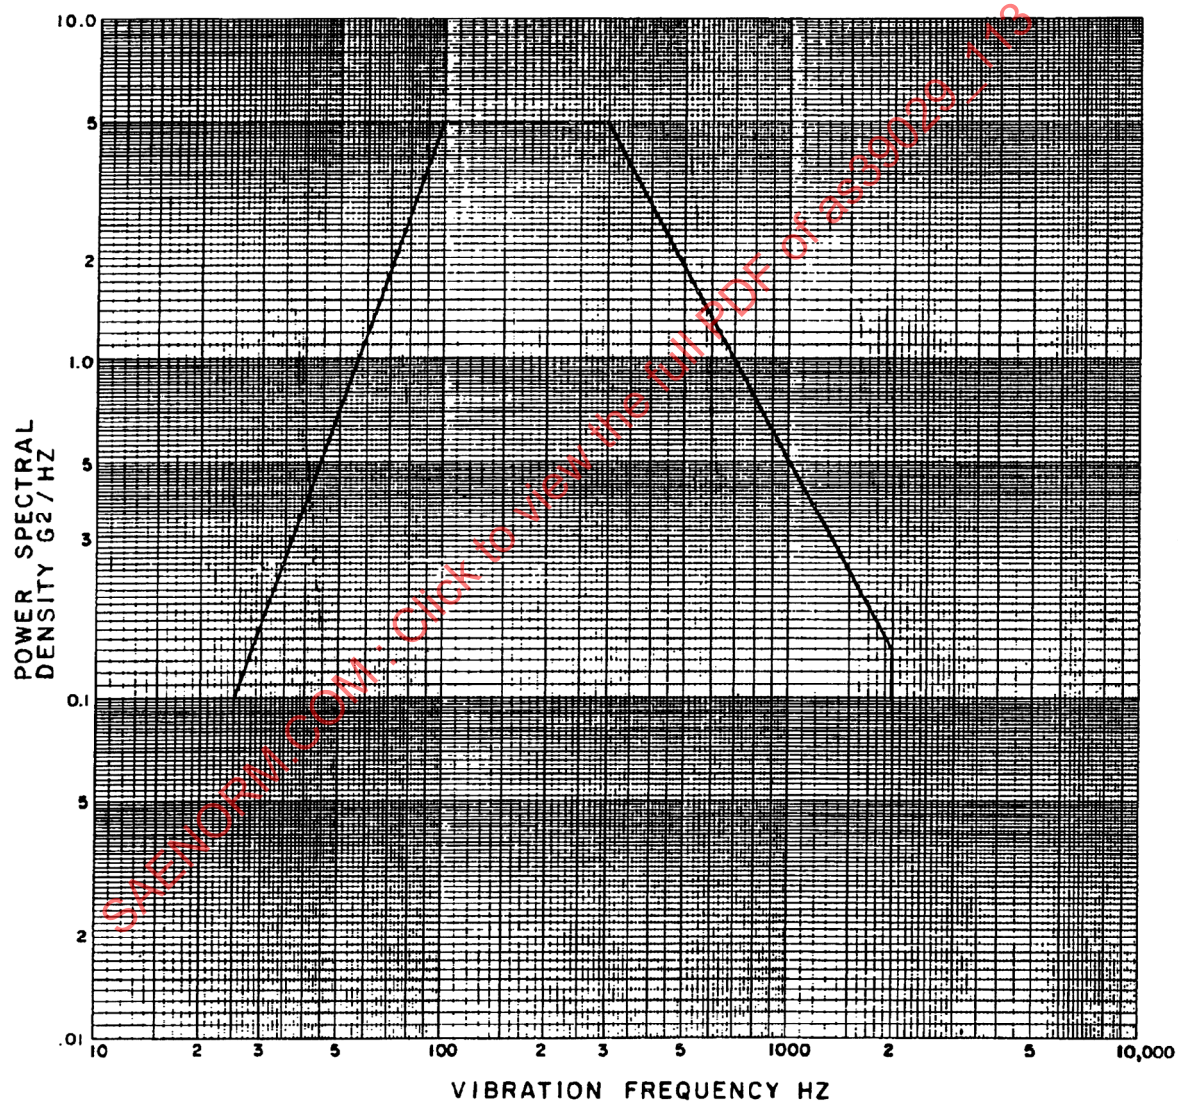

FIGURE 7 - VIBRATION ENVELOPE
6. VIBRATION: THE VIBRATION SHALL BE IN ACCORDANCE WITH 39029 EXCEPT TEST CONDITION IV SHALL BE TEST CONDITION V. USE THE VIBRATION ENVELOPE SHOWN IN FIGURE 7.